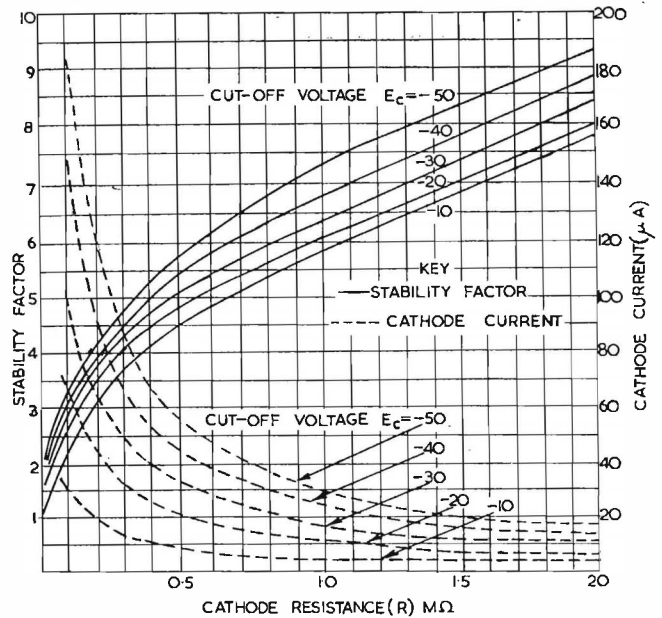

Fig. 4. Stability factor and cathode current vs. cathode resistance value for various cut-off voltages
Fig. 4 plots the stability factor and working current as a function of cathode bias resistor  $R$  for various cut-off voltages. Fig. 4 was obtained by plotting a number of modulation curves of the form of Equation (1) and drawing on them the appropriate load lines. Increasing the bias resistor naturally raises the stability factor, but a limit to this process is set by the reduction in cathode current so caused. However, it is apparent that useful